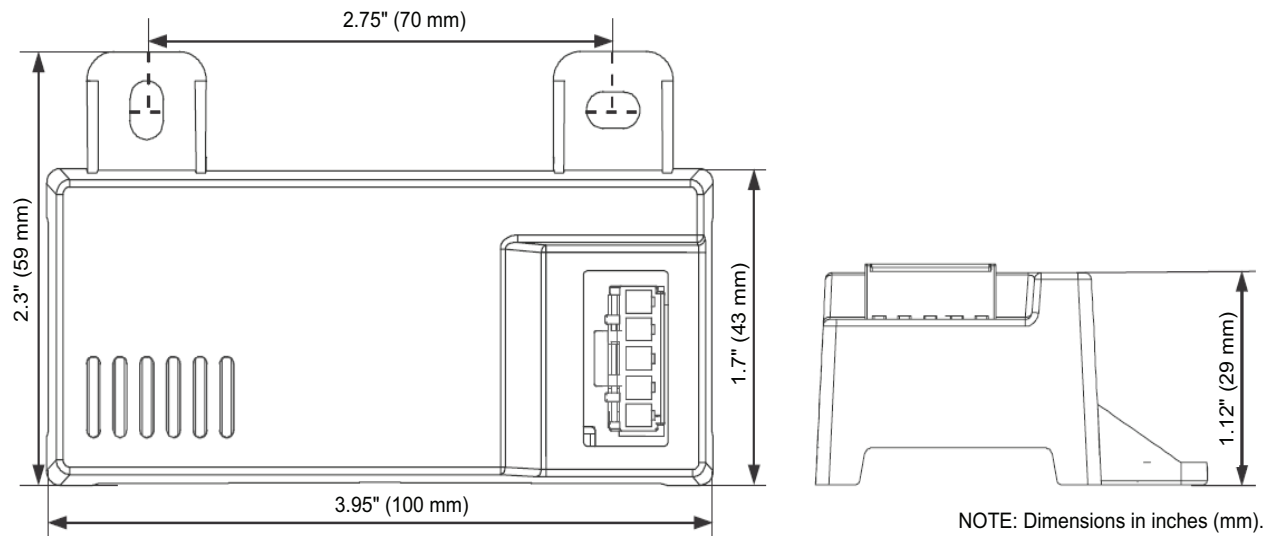
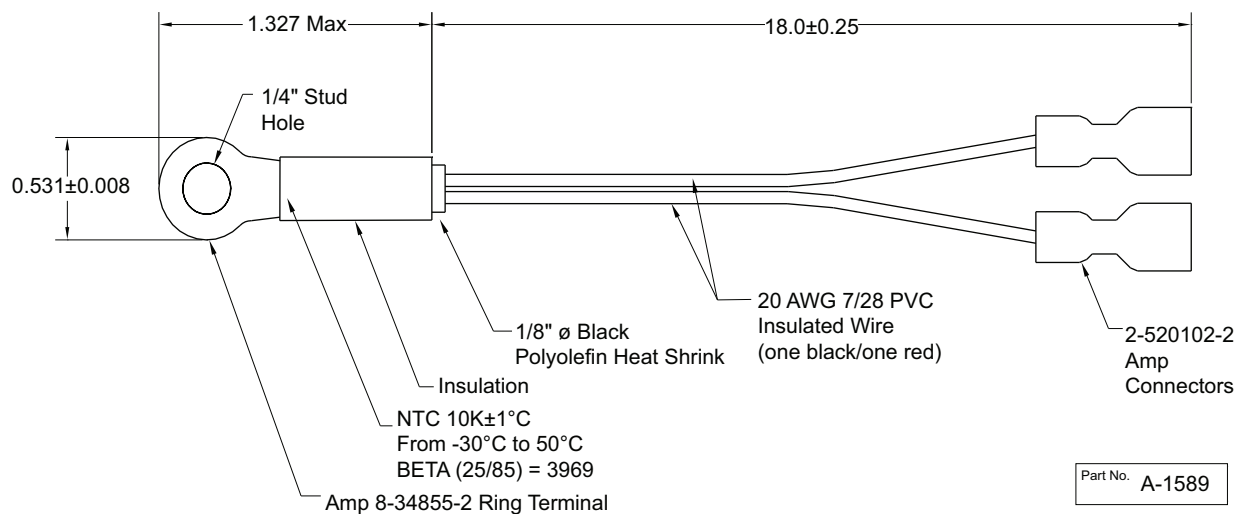
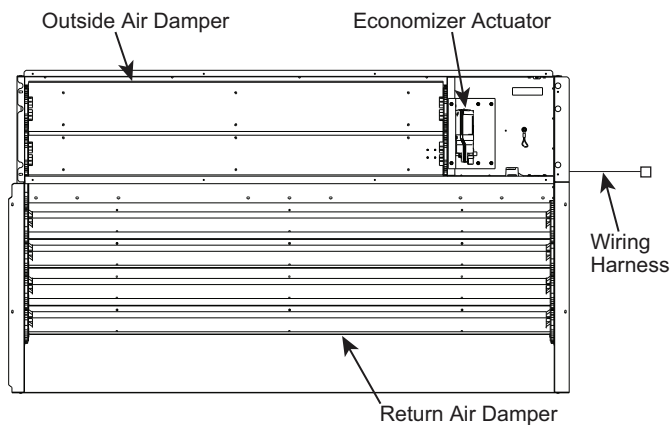

Fig. 88 — HH57LW001 Dimensional, Connection and Switching Information
Fig. 89 — HH79NZ039 Dry Bulb and Mixed Air Sensor Wiring
Fig. 90 — EconomizerONE System Component Locations
When using the HH57LW001 enthalpy sensor (see Fig. 88) for outside air changeover, the existing HH79NZ039 dry bulb sensor (see Fig. 89) must be removed. The enthalpy sensor will be mounted in the same location as the dry bulb sensor (see Fig. 90). When the enthalpy sensor's OA (Outside Air) temperature, enthalpy, and dew point are below their respective set points, outside air can be used for free cooling. When any of these are above their set point, free cooling will not be available. Enthalpy set points are configurable and create an enthalpy boundary according to the user's input. For additional details, see Fig. 91-92 and Table 36.
The optional enthalpy control sensor (P/N: HH57LW001) communicates with the POL224 economizer controller using the 5-wire harness, 48TC005213. The HH57LW001 sensor can be used as a single outside air enthalpy, a differential return enthalpy, or a differential return temperature sensor. Refer to the base unit control wiring diagrams found earlier in this book to wire the HH57LW001 enthalpy sensor for each option. See Fig. 88 and Table 38 on page 79 to locate the wiring terminals for each enthalpy control sensor.
Economizers are shipped standard with an HH79NZ039 outside air dry bulb sensor (refer to Fig. 89). System default setting (high temp limit) is 63°F (17°C) and has a range of 48°F to 80°F (9°C to 27°C). Sensor is factory installed on economizer.
If installing the optional HH57LW001 enthalpy sensor, the HH79NZ039 dry bulb outside air sensor must first be removed. Wire sensor to harness 48TC005213 and the (5) wires from the harness to the EconomizerONE harness in the return air chamber. Harness 48TC005213 has a 5-pin plug that connects directly to the HH57LW001 enthalpy sensor. Refer to the base unit control wiring diagrams earlier in this book for wiring connections. Refer to Fig. 88 and see Table 38.